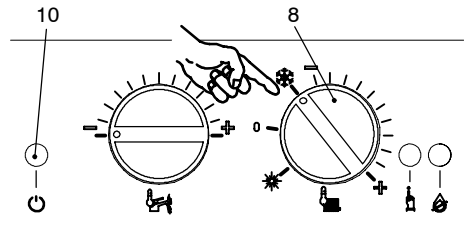

Fig. 7.3
- 2 Turn the function selector 8 as in Fig. 7.3. The appliance operation light 10 will flash every 2 seconds.
To reset the boiler press and release the boiler reset button 7 (Fig. 7.3).